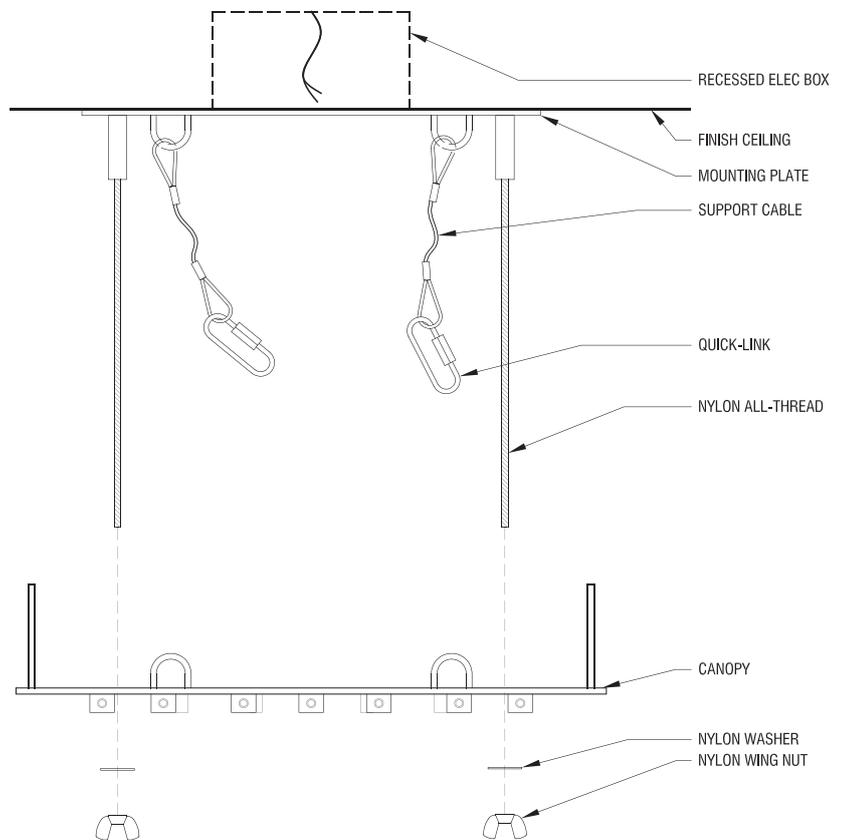

Figure 3. Install nylon all-thread rods into mounting plate and slide canopy up over rods
- 5 Fully thread each of the provided all-thread rods into each of the two threaded stand-offs on the mounting plate (Figure 3). Slide the canopy up and over the all-thread rods such that each rod passes through the appropriate hole in the canopy. One at a time, slide a nylon washer up over each all thread and thread on a wing nut.